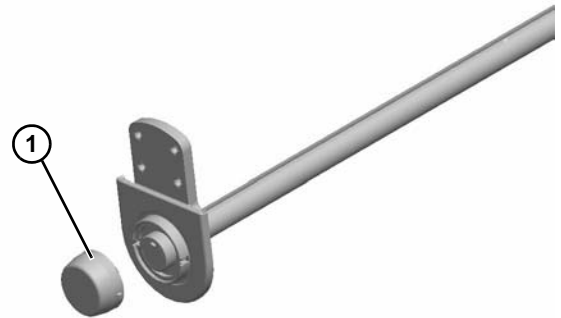

Figure 44
13. Remove bearing cover (Figure 44, item 1).